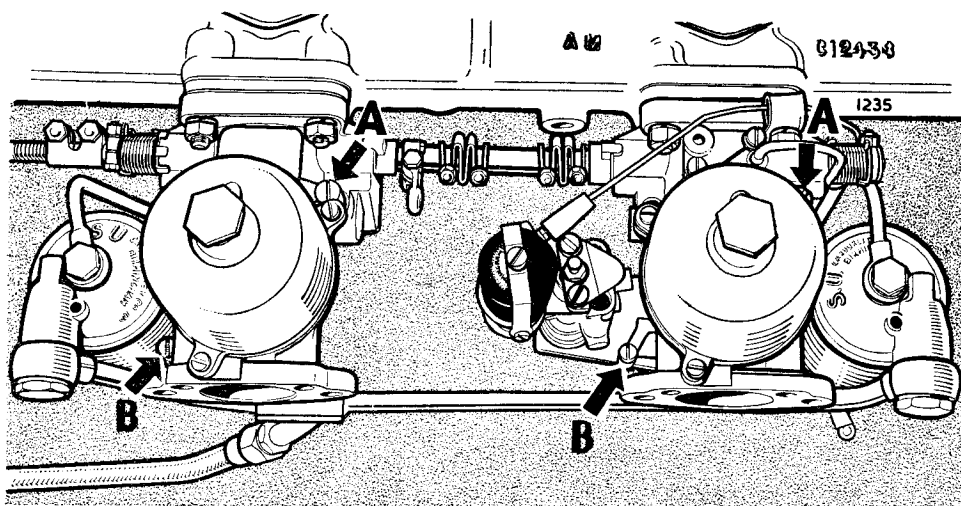

Fig. 11. "A"—Slow running volume screw. "B"—Mixture adjusting screw.
If adjustment is required turn the two slow running volume screws (see Fig. 11) by exactly equal amounts until the idling speed, observed on the revolution counter instrument, is correct.
Only two adjustments are provided at the carburetters (i) The slow running volume screw (A) (Fig. 11) governing idling speed and (ii) the mixture adjusting screws (B) governing mixture strength. Correct setting of the mixture strength at idling speed ensures that the carburetters are correctly adjusted throughout their entire range.